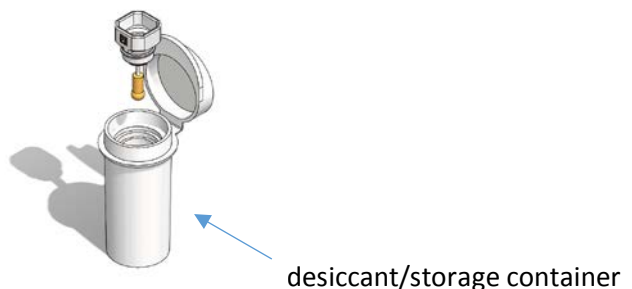

Figure 1: Opened truCOLLECT
4. Carefully remove the truCOLLECT-RUO cap/swab assembly as shown in Fig. 1